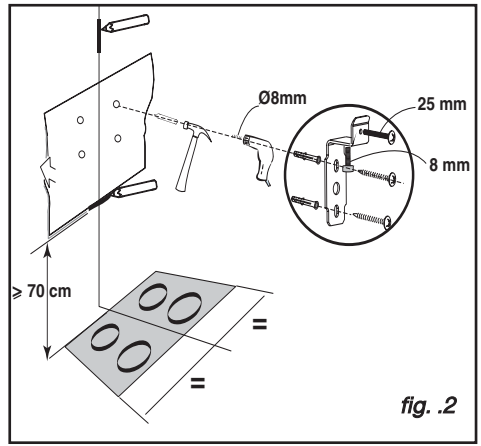

fig. .2
The minimum distance between the cooking surface and the lowest part of the hood must be 70 cm. If the instructions for the hob installed under the hood specify a distance of more than 70 cm, this requirement must be respected the cooker top (fig. 2).
- Draw a vertical line (fig. 2) on the wall that is centred over the cooker top and that extends from the horizontal line drawn in the previous step down to the ceiling.
- Place the drilling template (fig. 2) on the wall. In the case of a hollow wall, use suitable wall plugs and screws.
- Screw the fastening bar to the wall (fig. 2), with the 2 screws (fig. 2)